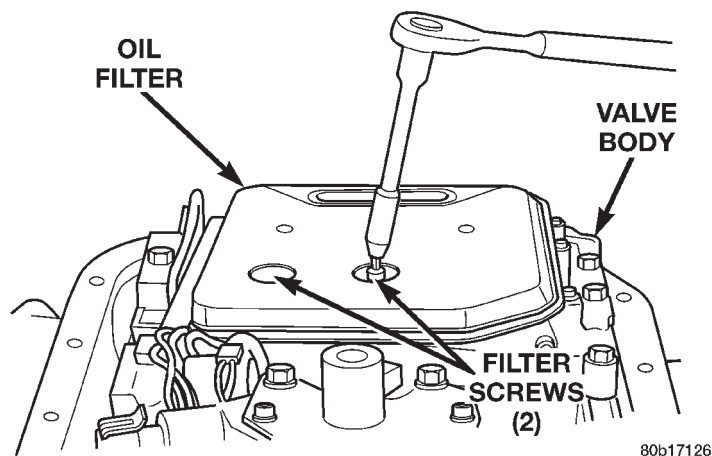

Fig. 87 Oil Filter Removal
(1) Clean transmission exterior with steam gun or with solvent. Wear eye protection during cleaning operations.
(2) Place transmission in a vertical position.
(3) Measure and record input shaft end play readings.
(4) Remove shift and throttle levers from valve body manual lever shaft.
(5) Place transmission in horizontal position.
(6) Remove transmission oil pan and gasket.
(7) Remove filter from valve body (Fig. 87). Keep filter screws separate from other valve body screws. Filter screws are longer and should be kept with filter.